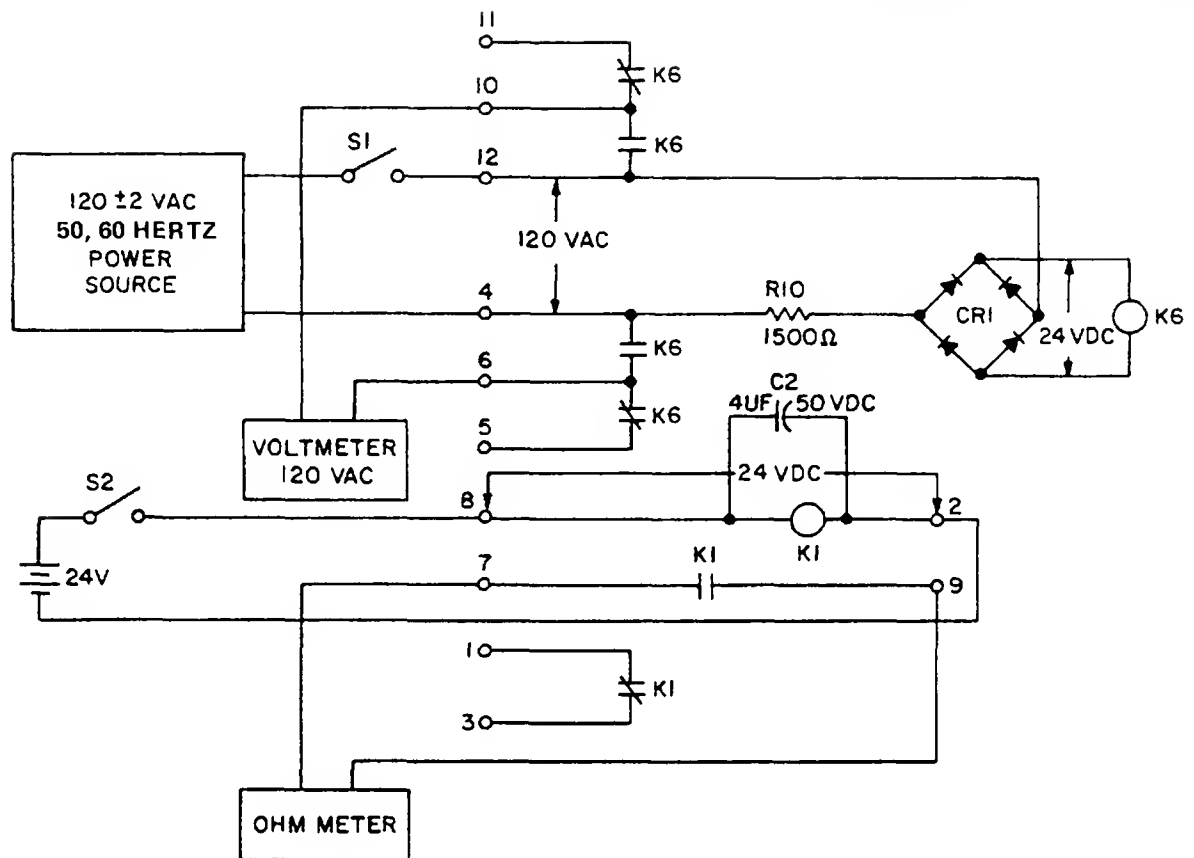

Figure 5-5. Control Box Relay Assembly A4, Test Setup
a. Connect the control box relay assembly to the test equipment as illustrated in figure 5-5.